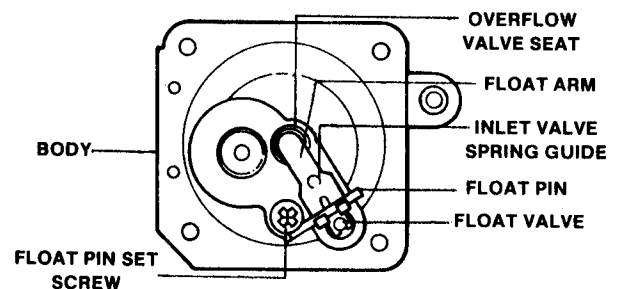

FIGURE 3.10
- (c) As float arm is being installed, insert float pin to point where it is completely under set screw. See Figure 3.10.